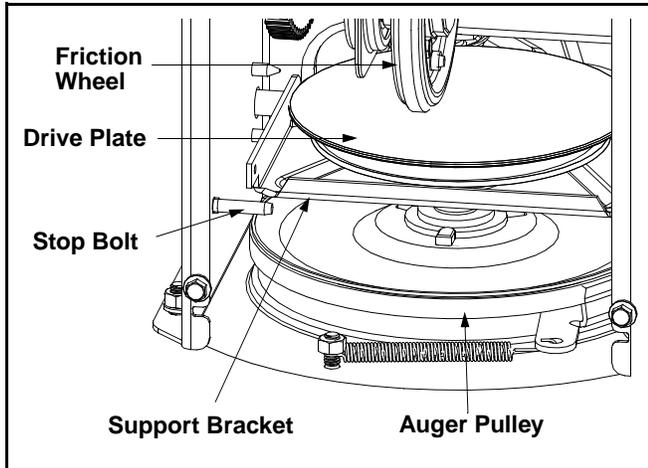

Figure 18
- Back out the stop bolt until the support bracket rests on the auger pulley. See Figure 18.
- Lift the auger belt from the auger pulley, and slip belt between the support bracket and the auger pulley. See Figure 18. Repeat this step for the front auger belt.
- Slip belt between friction wheel and friction wheel disc. See Figure 18. Remove and replace belt.
NOTE: The support bracket must rest on the stop bolt after the new belt has been assembled. See Figure 18.
- Using a 7/8" wrench to hold the shaft, loosen, but do not completely remove, the hex nut and bell washer on the left end of gear shaft. See Figure 18.